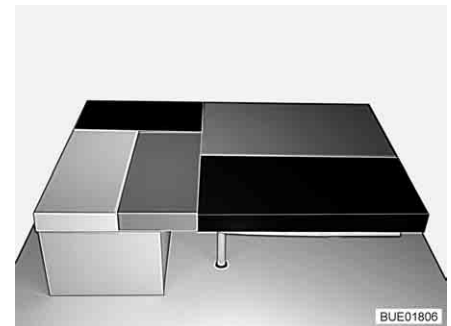

Fig. 119 After conversion
- Place the slim additional cushion on the bed widening on the divan (see Fig. 119).